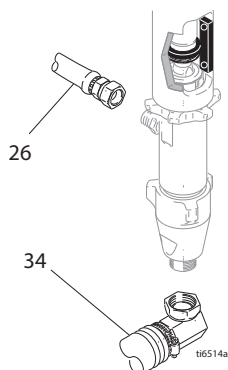

Fig. 11
- 3 Fig. 11. Remove suction tube (34) and hose (26).